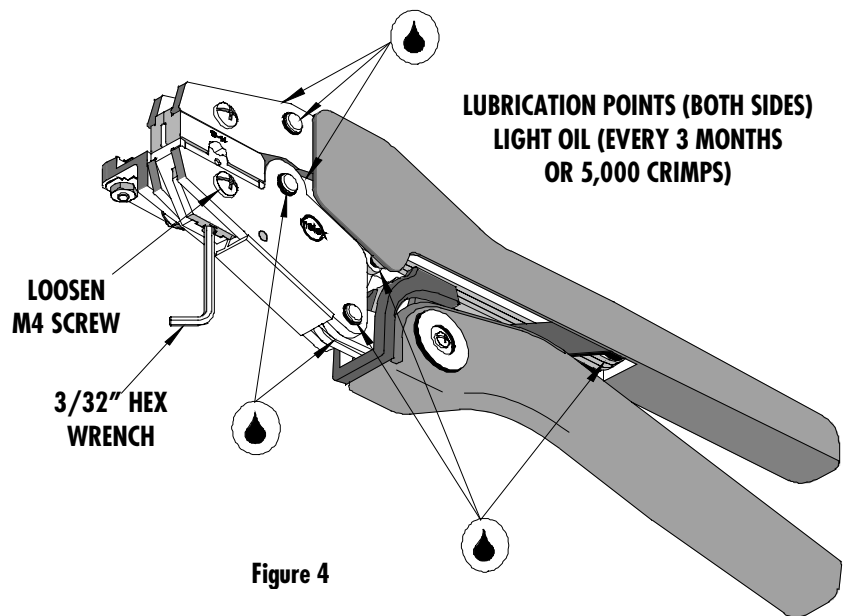

Figure 4
6. If the insulation part of the crimp needs to be adjusted, first loosen the M4 screw on the bottom tool jaw, then insert a 3/32 hex wrench (supplied) into the bottom of the lower die (See Figure 4). A clockwise (CW) rotation decreases insulation crimp while a counter-clockwise (CCW) rotation increases insulation crimp. After adjusting retighten the M4 screw.
3. Make certain all pins, pivot points and bearing surfaces are protected with a thin coat of high quality machine oil. Do not oil excessively. The 64001-2600 (RHT-5761) was engineered for durability, but like any fine piece of equipment it needs cleaning and lubrication for a maximum service life of trouble-free crimping. A light oil, such as 30 weight automotive oil used at the oil points shown in Figure 4, every 5,000 crimps or 3 months will significantly enhance the tool life and ensure a stable calibration.